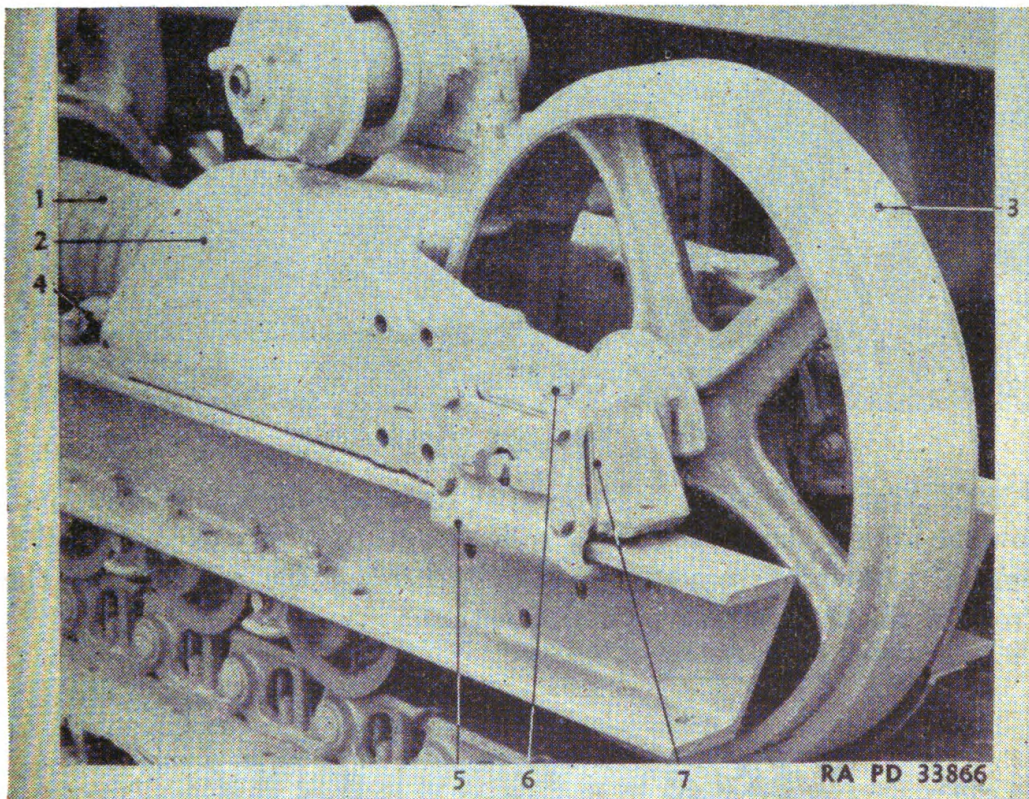
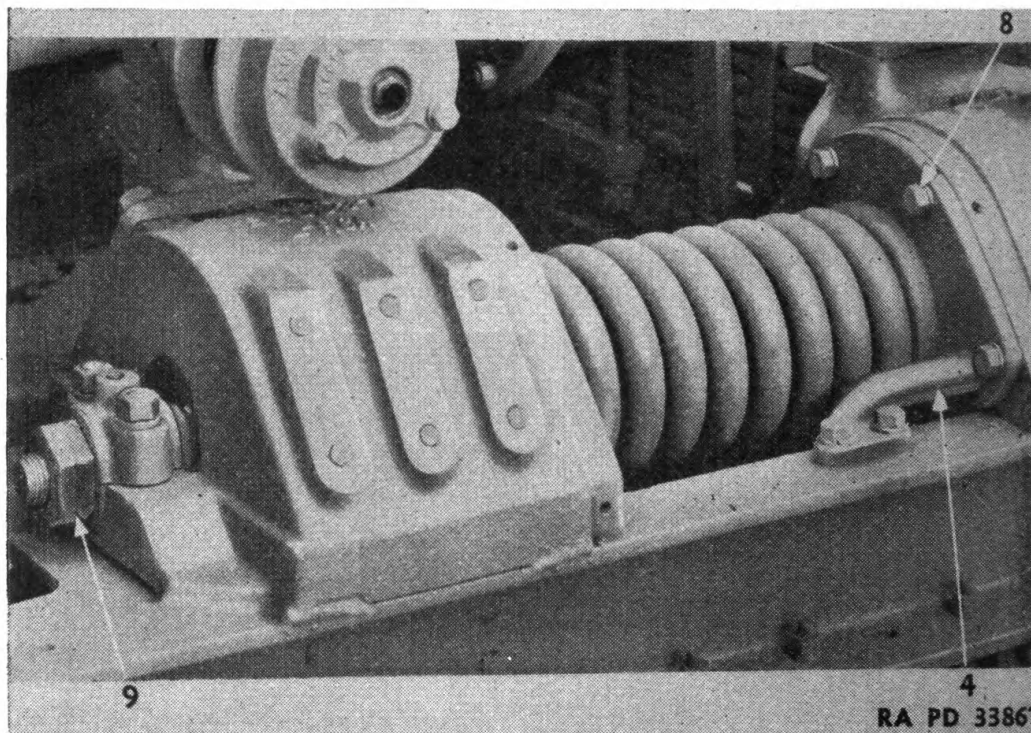
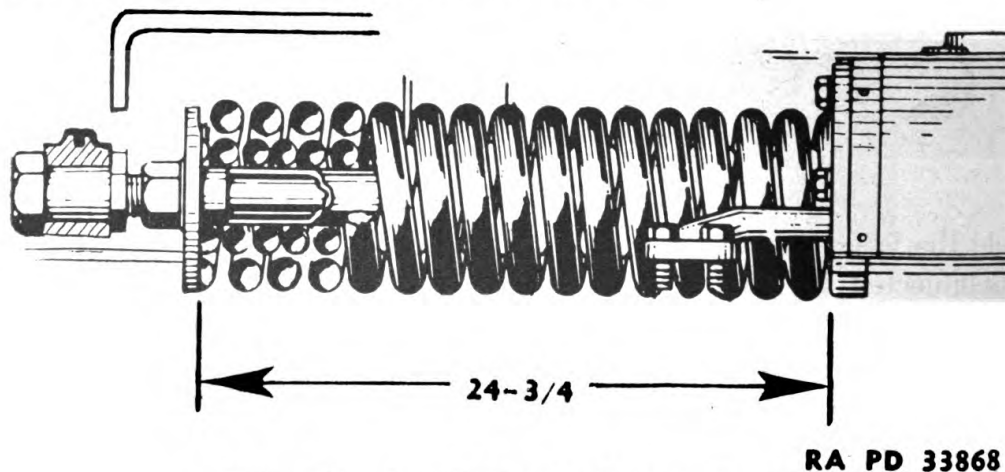

FIGURE 149.—Front idler assembly.
FIGURE 150.—Front idler and yoke removal.
FIGURE 151.—Assembled length of idler recoil spring.
134. General.—The front idler is used to maintain proper tension in the track and to guide the track. Turning adjusting nut (9) (fig. 150) moves recoil spring (1) (fig. 149), idler yoke (2), and idler (3) forward or backward on the roller frame. The idler and yoke move back against the compression of spring (1) when an obstruction is encountered at the front of the track assembly. Guides (4) and (5)
hold the idler yoke in alignment on the roller frame. With the track disconnected and laid out flat, the front idler and yoke can be removed as a unit by taking off guides (4) and (5) and removing capscrews (8) (fig. 150).
135. Bushings, shafts, and thrust washers.—The bushings and shafts can be removed as recommended for track rollers after setscrew (6) (fig. 149) is removed from each end of the idler shaft.
136. **Idler yoke.**—*a.* The idler yoke should have from $\frac{1}{8}$ - to $\frac{3}{16}$ -inch side movement on the roller frame. Amounts in excess should be reduced by removing shims (7) (fig. 149).
b. The assembled length of the spring (fig. 151) from the end of the front coil to the end of the rear coil should be $24\frac{3}{4}$ inches. This is governed by the nut on the recoil spring bolt ahead of nut (9) (fig. 150).
c. Track adjusting nut (9) does not change the tension of the recoil spring but rather slides the complete spring, yoke and idler.